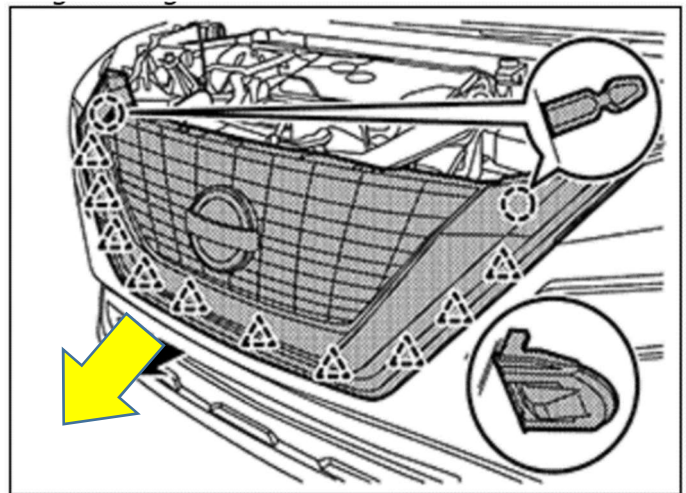

Figure 8
8. Disengage front grille fixing clips and pawls from the backside while pulling front grille toward the vehicle front. (Figure 8)